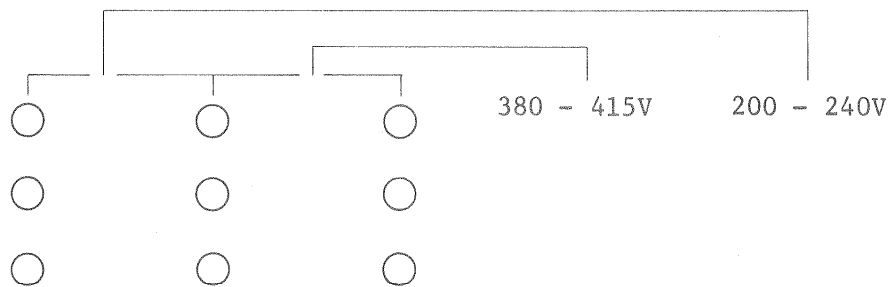

Figure 2.2 PDU voltage selection tap
- (2) Change the tap according to the input voltage conversion label which is pit on the cover (Figure 2.2).
- (3) Mount the cover and the PDU in place.